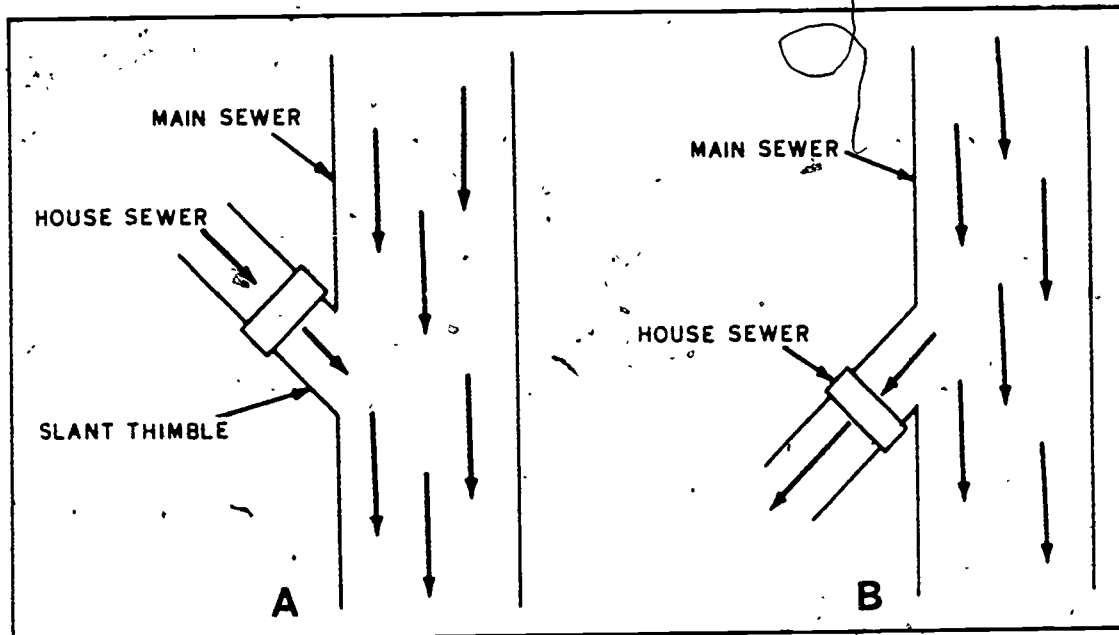
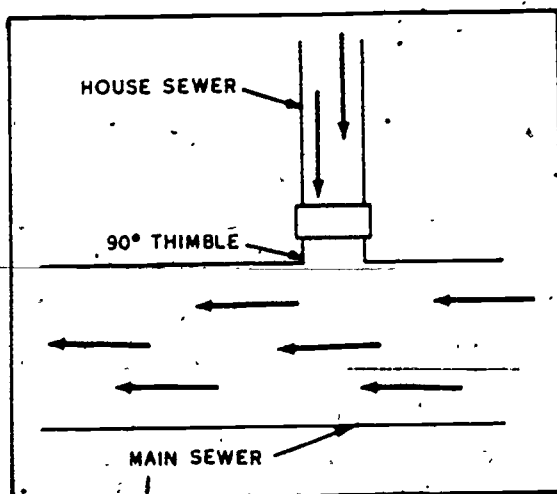

Figure 1-9. Installation of thimbles.
Figure 1-10. Thimble placed at 90° to main sewer.
**Measuring and Cutting Thimbles.** The house sewer is connected to the main sewer by a thimble, which is a short section of sewer pipe with a hub. The degree at which the thimble enters the main sewer is very important. It should be placed at an angle which will discharge the flow from the house sewer in line with the direction of the flow in the main sewer, as shown in A of figure 1-9. Never place the thimble in a direction which will produce a scooping effect, as shown in B of figure 1-9. During periods of high sewage flow in the main, such an installation would produce a backflow from the main sewer and might flood the lower levels of the building. In some cases where the house sewer is above the grade of the main sewer, a thimble placed at 90° to the main sewer (see fig. 1-10) makes a satisfactory connection.